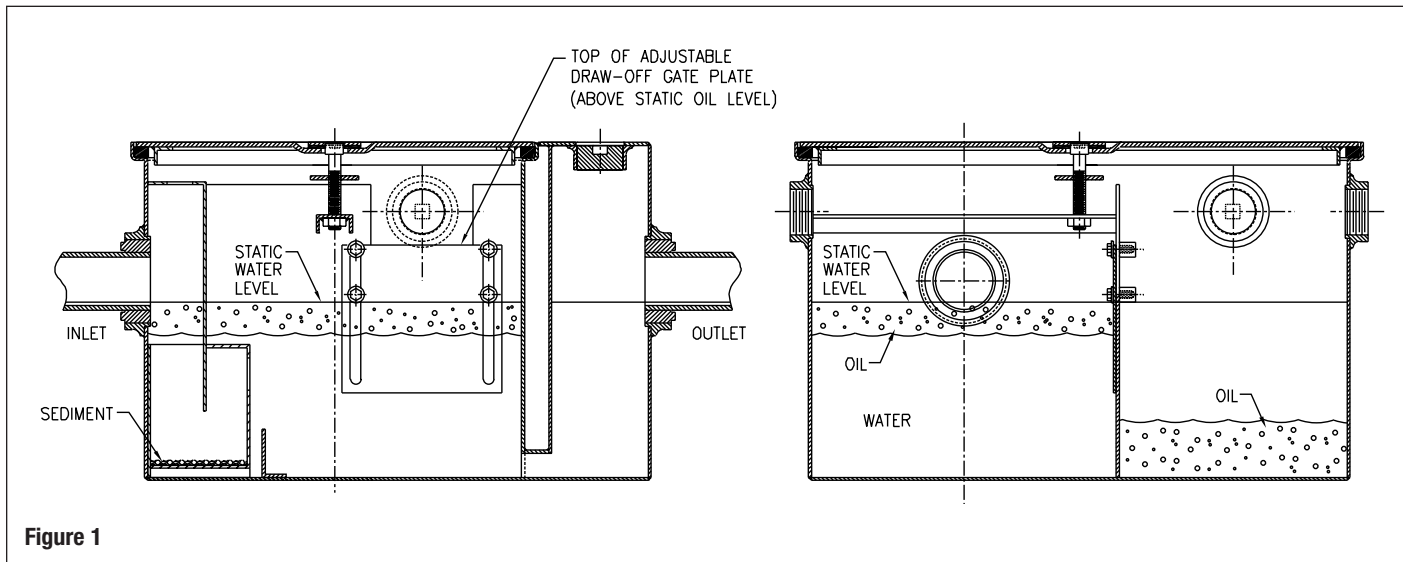

Figure 1
**Figure 1** below shows the conditions inside the interceptor in a “non-operating” mode. It can be seen that the oil has separated itself from the water. The oil is floating on the surface of the water in the main separation compartment and the top of the oil is below the top of the adjustable oil draw-off gate plate (see “How To Set Adjustable Draw-off” section).